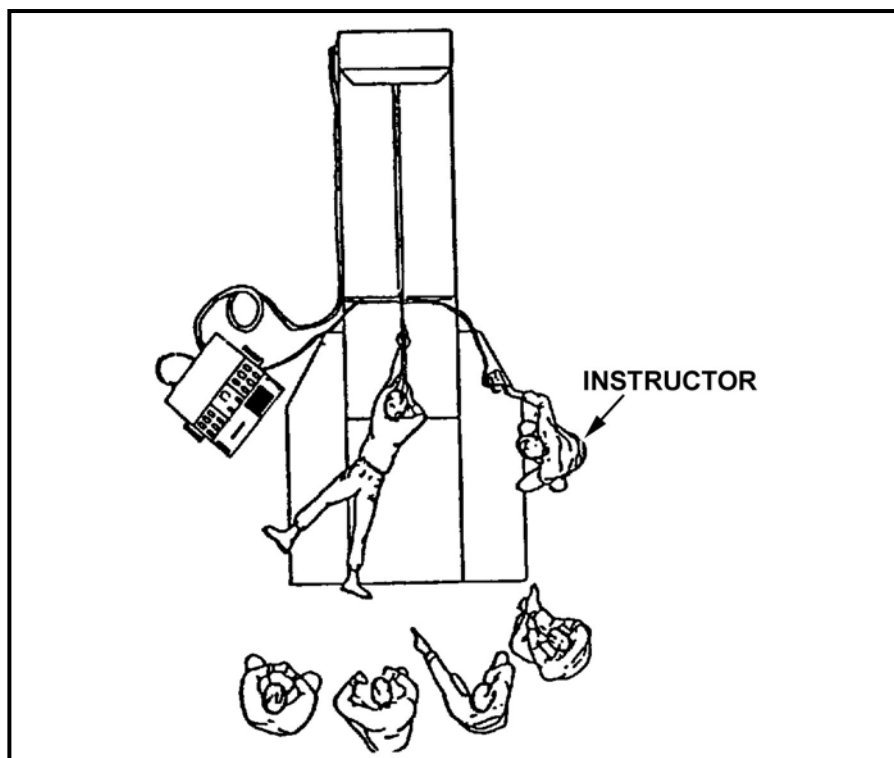
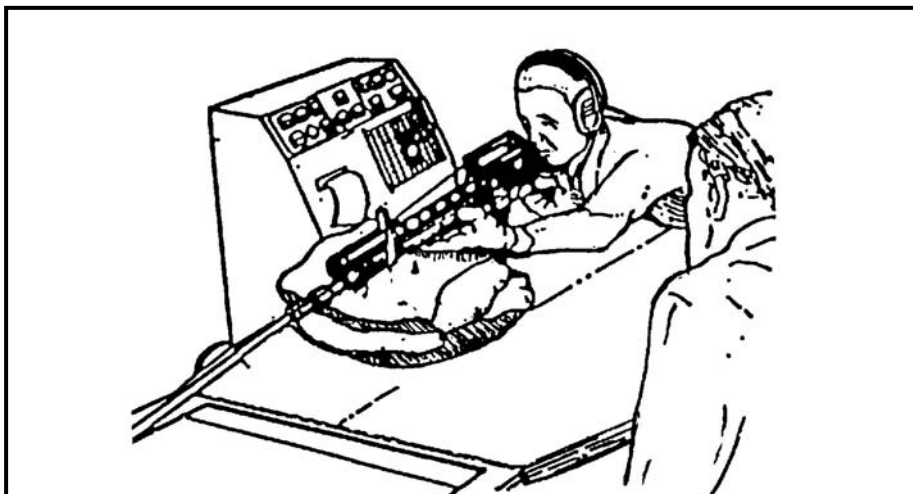

Figure A-14. Weaponeer training configuration.
Figure A-15. Training arrangement (supported firing position).
(1) The preferred training configuration for the Weaponeer is shown in Figure A-14 on page A-18. One trainer operates the system while three to six soldiers observe the training. Soldiers should rotate, each receiving several short turns on the system. Where high throughput is required, consolidation of available Weaponeers may be considered.
(2) When training soldiers on the Weaponeer—
(3) In Figure A-14, five soldiers are being trained. One is firing and four are observing, awaiting their turns on the device. The video screen is carefully positioned just outside the vision of the firer, but the firer can easily turn his head to see replays and hit points. The position of the trainer is also important so he can see both the firer and video screen. This is a good position for detecting and correcting firing faults. When the firer is in the standing supported firing position, the console should be placed on a table so the trainer can see the video screen above the firer's rifle (Figure A-15). Observers can see the targets, firer, and video screen and learn procedures that speed up training and help avoid firing faults.